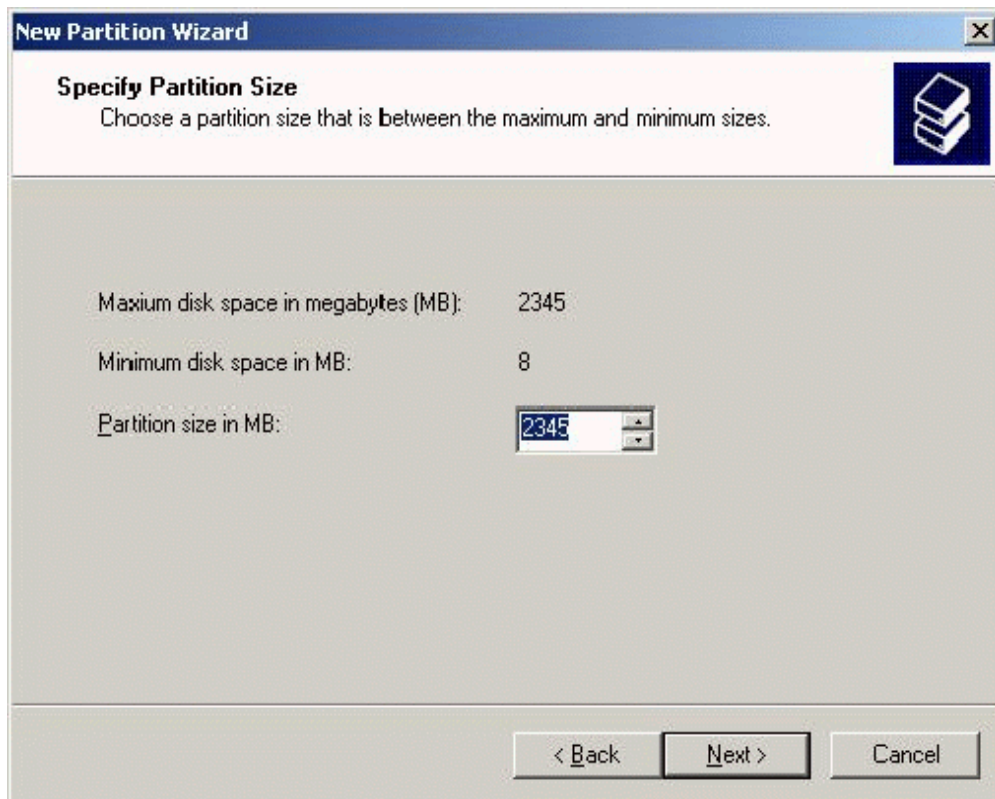

Figure 2-13: Assigning the Drive Letter or Path
4. When the Assign Drive Letter or Path panel appears (Figure 2-13 on page 2-18), select a drive letter or path, or specify no drive letter or drive path. Click **Next**.